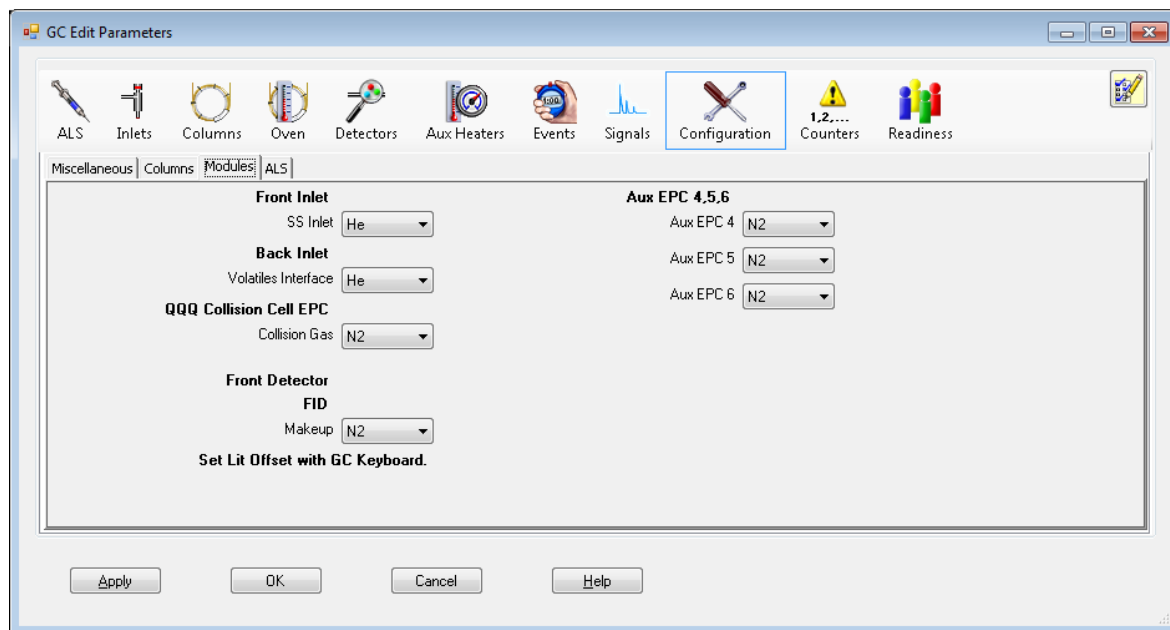

Figure 16 Configure collision cell gas
- 2 Select the **Modules** tab to display the screen. See Figure 16.